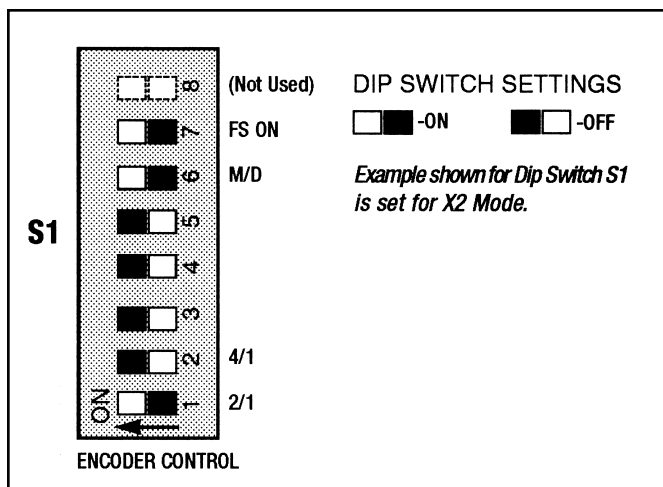

Figure 3.2 - Dip Switch S1 (Example)
1. Set the Resolution with the **Dip Switch #S1 (Encoder Control)** located in the lower left corner of the CPU board. (See *Ratio Setting Chart and Figure 3.2*).